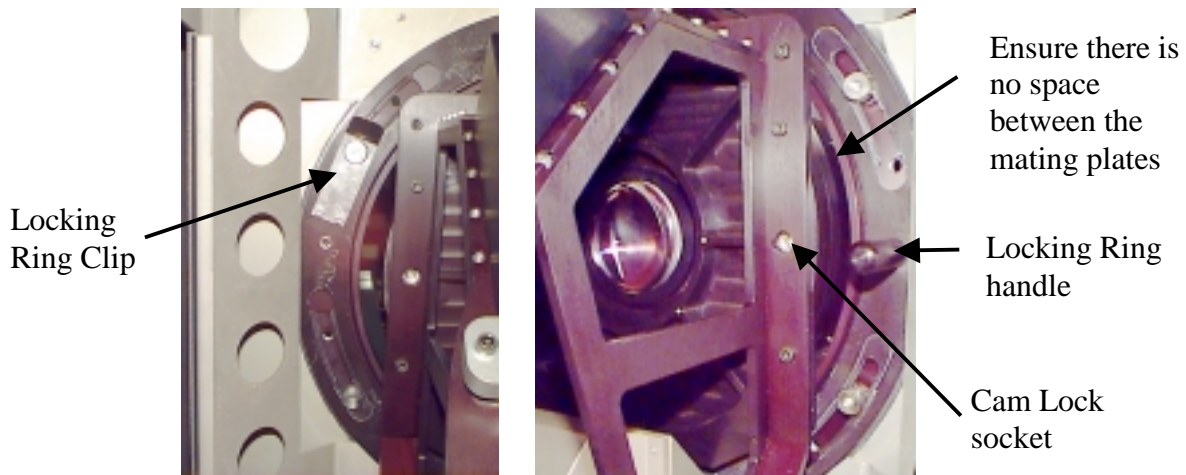

Figure 5-5 Left and right side of Arc Lamp Module after attachment to Projection Module.
3. Loosen the two Cam Locks (*shown in white circles, see Figure 5-2*) about $\frac{1}{2}$ turn each. Refer to Figure 5-5 which illustrates how the Arc Lamp Module and Projection Module appear *after* being attached. This illustration is also applicable when the Shipping Plate Assembly is attached. The hardware mounting and appearance is the same in both cases.
4. Lift up the Locking Ring Clip (*see Figure 5-5*). Then turn the Locking Ring Handle (*see Figure 5-5*) by hand only until the Locking Ring disengages. The Shipping Plate Assembly may then be removed and set aside.
10. After the Arc Lamp Module is placed over the Projection Module Shoulder Bolts and Cam Locks, turn the Locking Ring to secure the attachment. Turn this handle **by hand only** until the Locking Ring Clip (see Figure 5-5) engages.